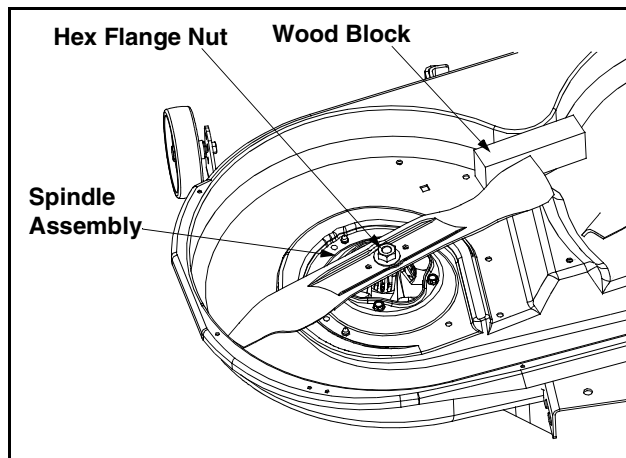

Figure 4
- Place a block of wood between the center deck housing baffle and the cutting blade to act as a stabilizer. See Figure 4.